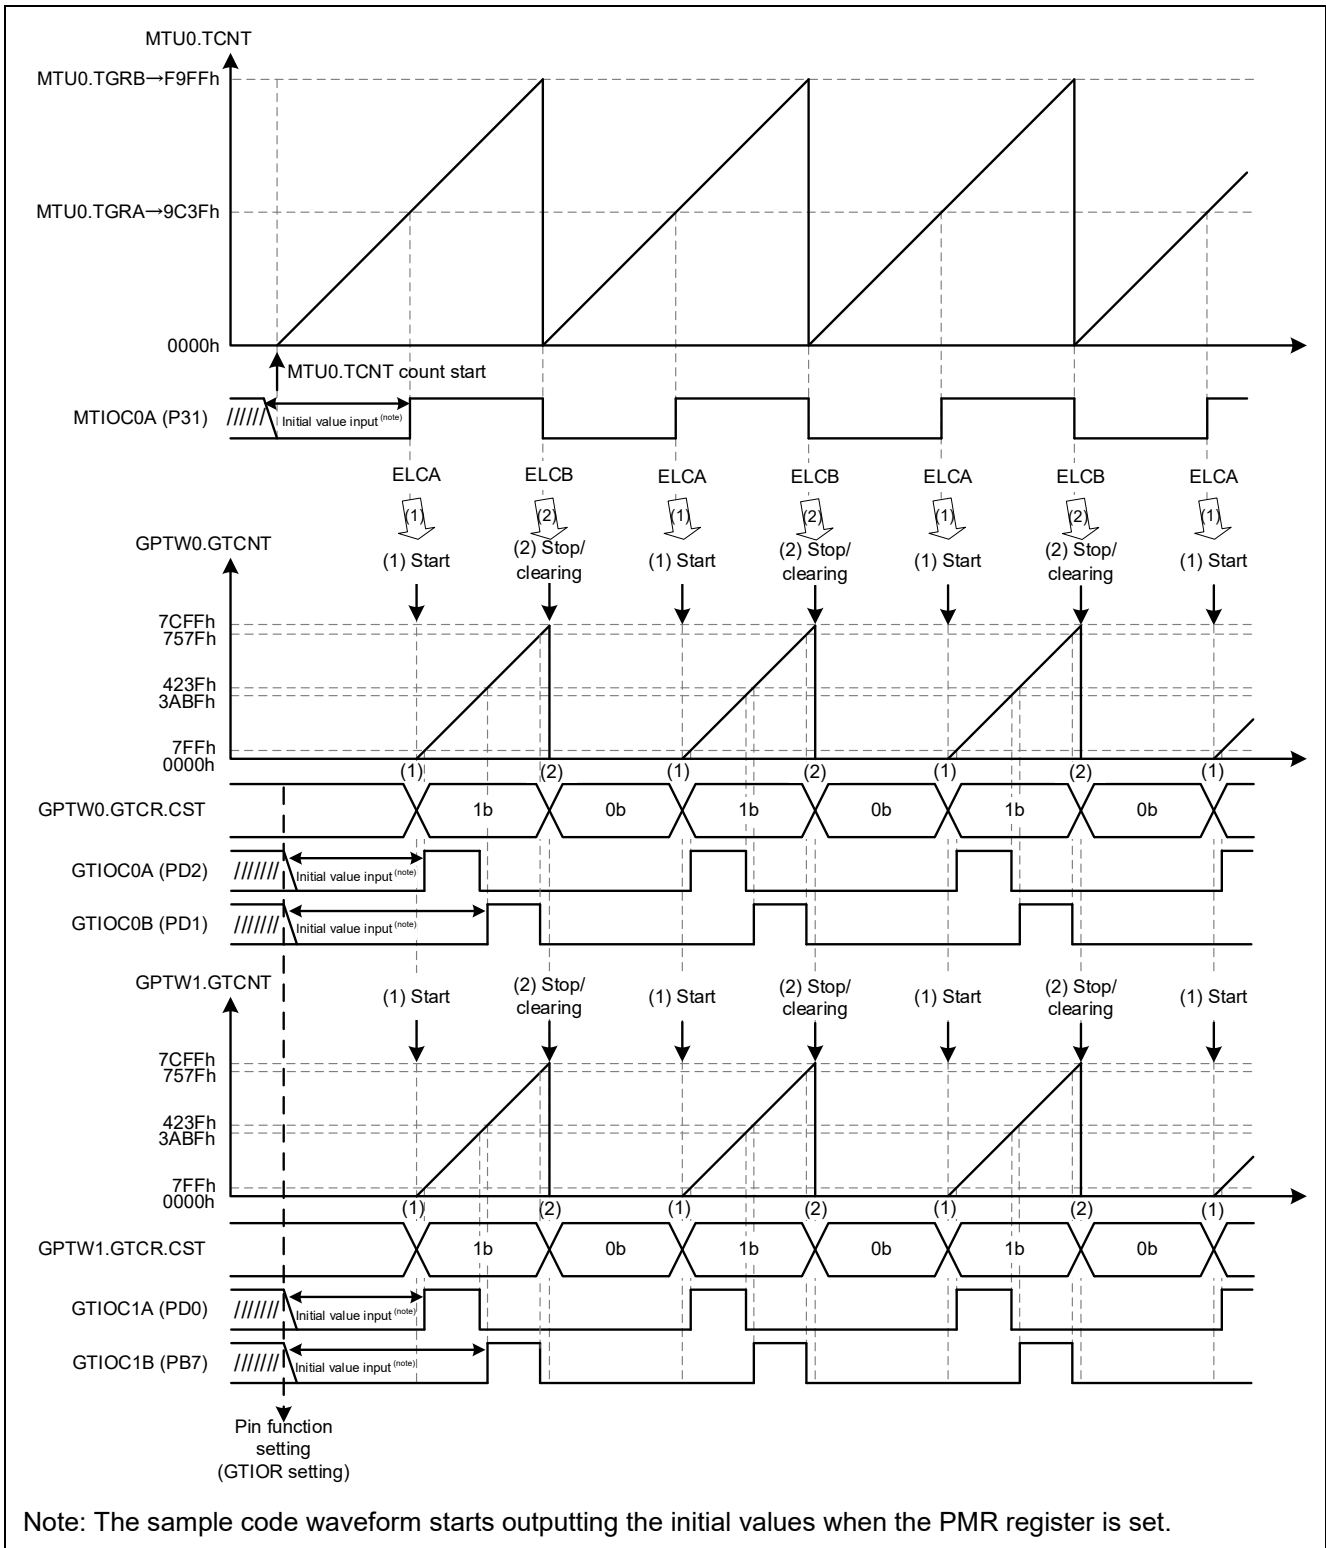

Figure 4.35 Sample Code Operations
The sample code operations are shown in Figure 4.35. The event sources of ELC are set as follows: the MTU0's TGRA compare match is set as the ELCA event and TGRB compare match as the ELCB event.
GPTW0 and GPTW1 synchronous count starts by ELCA event input when the MTU0.TGRA compare match occurs ((1) in Figure 4.35).
GPTW0 and GPTW1 synchronous count is stopped/cleared by ELCB event input when the MTU0.TGRB compare match occurs ((2) in Figure 4.35).